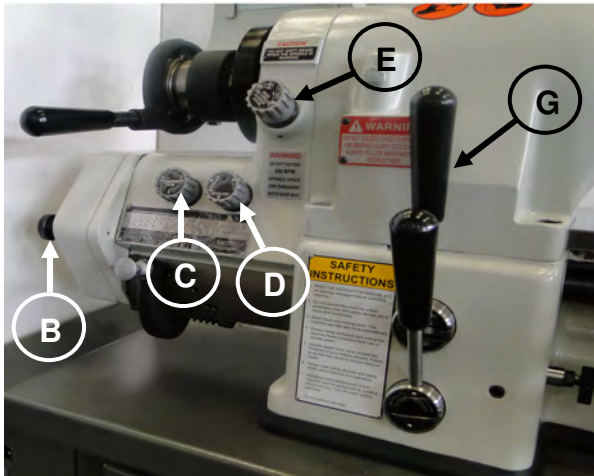
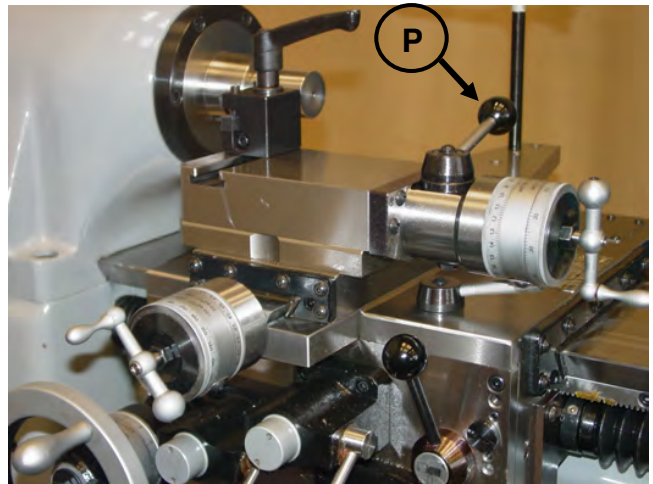

Figure 46-Headstock and Gearbox
Figure 47-Carriage and Compound Slide
13. Close gearbox door, tighten knob "B" (Figure 46), and turn selector knob "C" (Figure 46) to position specified on chart.
14. Turn Inch/Metric knob "D" (Figure 46) to Inch.
15. Turn Feed/Thread knob "E" (Figure 46) to "Thread".
16. Follow same procedures for setting carriage stops lead screw nut and compound slide as when cutting threads from the gearbox. Use of carriage control level "G" (Figure 46), and quick-acting handle "P" (Figure 47), will also be the same as when cutting threads from the gearbox.